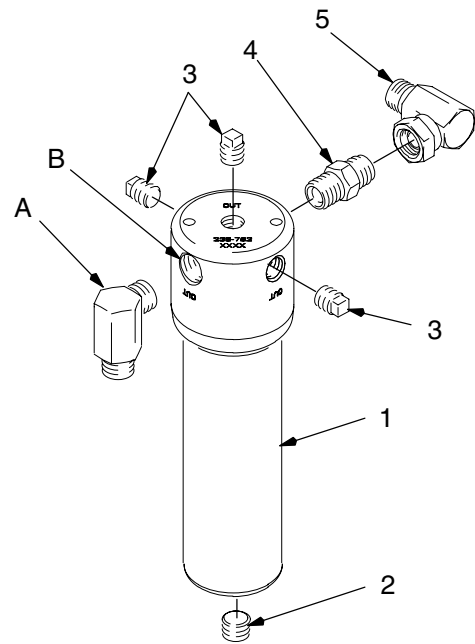

Fig. 1
1. Remove the elbow (A) from the pump outlet. Install it into the filter outlet (B). See Fig. 1.
2. Install the filter assembly onto the pump by screwing the filter elbow (5) into the pump outlet.